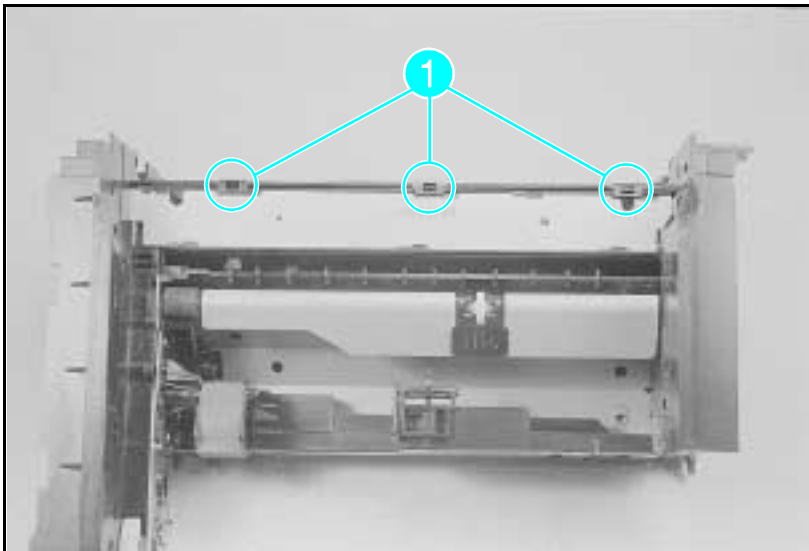

Figure 6-50 **Sensor PCA Removal**
- 4** Release the (3) clips that hold the Sensor PCA cover. Remove the cover (see Figure 6-50, callout 1).